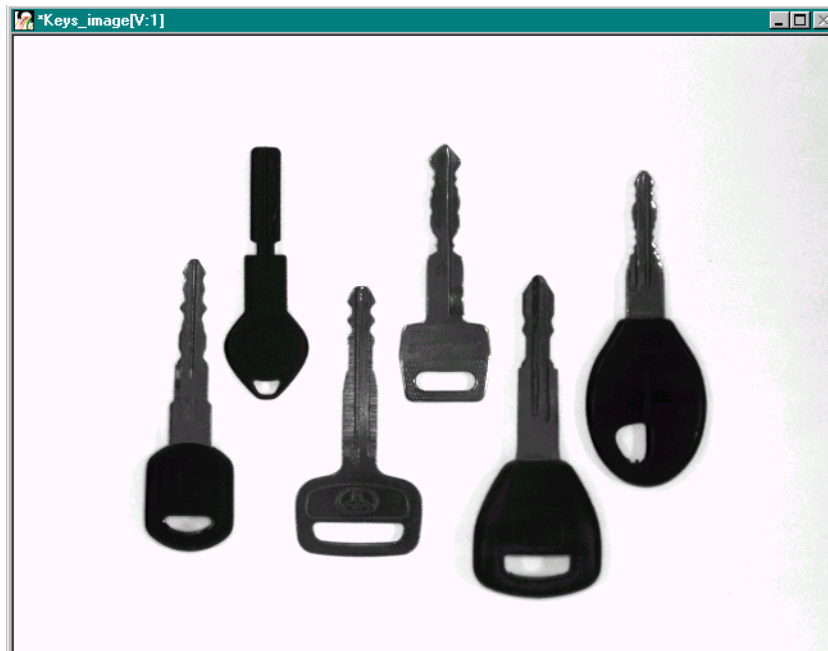

Figure 39: Contour Classifier Tool Example Image
This example shows how to classify different kinds of car keys using the image `keys_image`, shown in Figure 39.
2. Click on the image `keys_image` in the viewport in the main application; it becomes the active viewport and is denoted with an asterisk, as shown in Figure 39. Now, click **Input Image** in the Contour Classifier tool main dialog box.